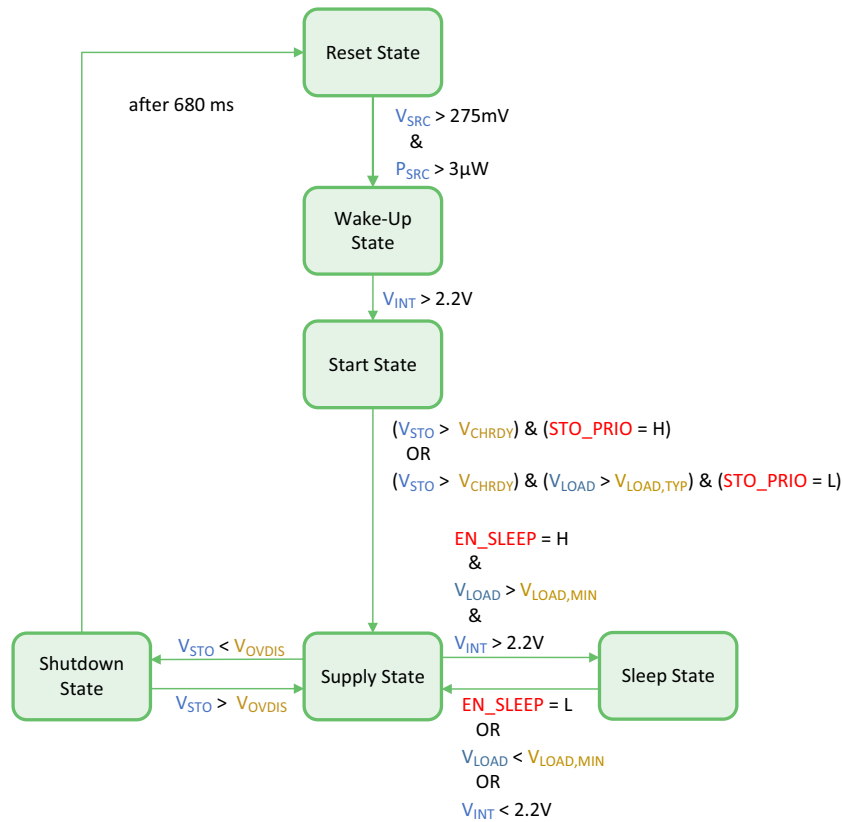

Figure 5: Diagram of the AEM10330 States
- If **EN_SLEEP** is HIGH and conditions (shown on Figure 5) on V_{LOAD} and V_{VINT} are satisfied, the AEM enters **SLEEP STATE** (see section 8.3.4).